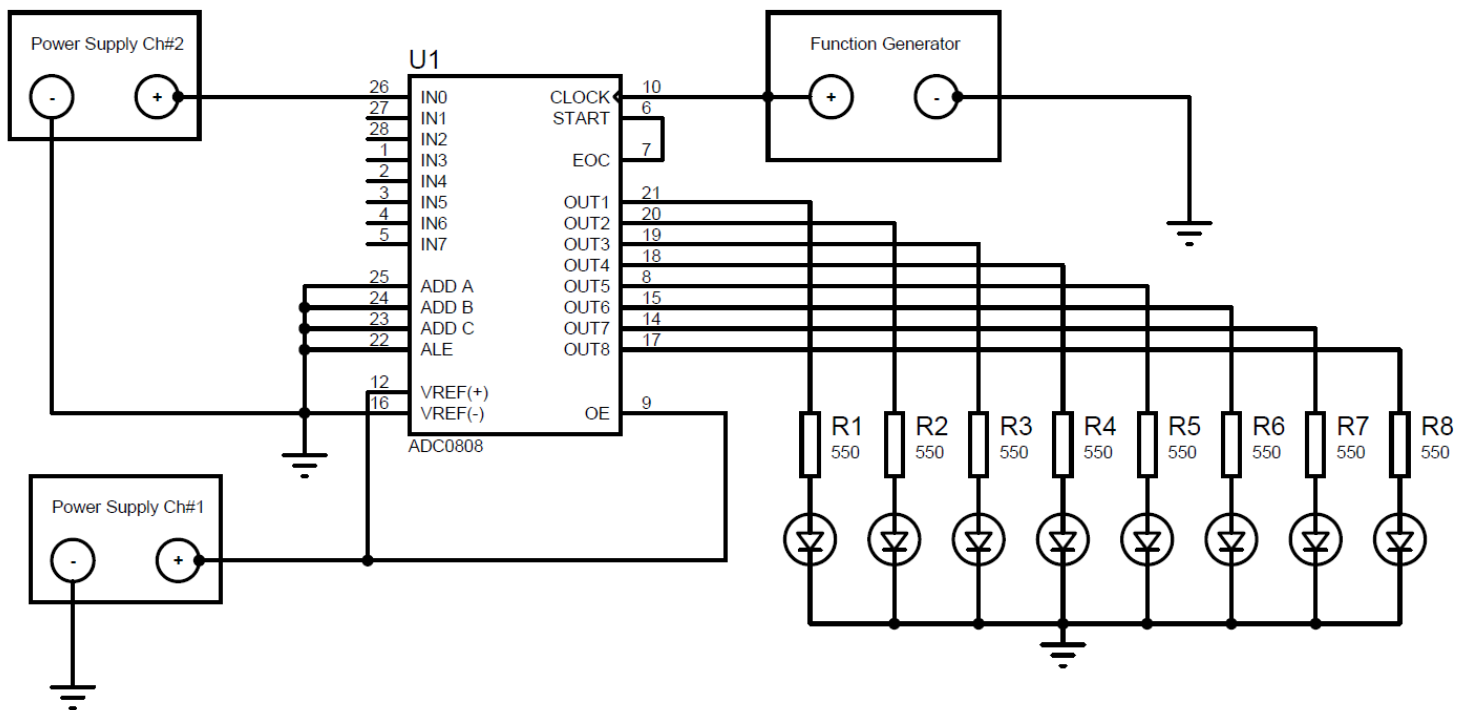

Fig.1 ADC0808 schematic
1. Connect your circuit as the given schematic in Fig.1.